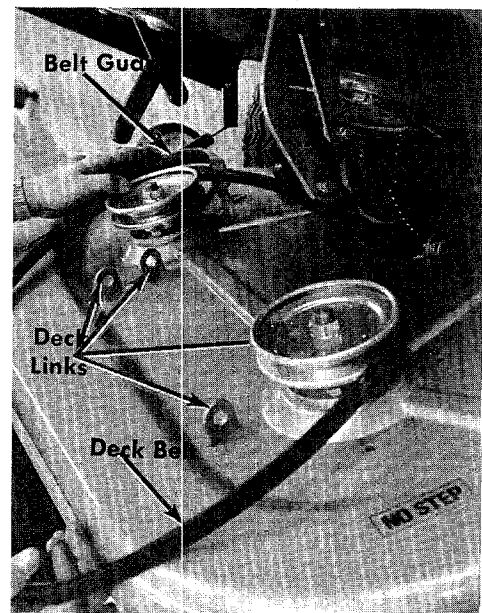

FIGURE 32. DECK LINKS
- Step 6. Remove the front four deck links from the cutting deck. See figure 32.
- Step 7. Remove the belt guards from both deck pulleys. See figure 32.
Step 6. Remove the front four deck links from the cutting deck. See figure 32.
Step 7. Tip the deck down as shown in figure 32.